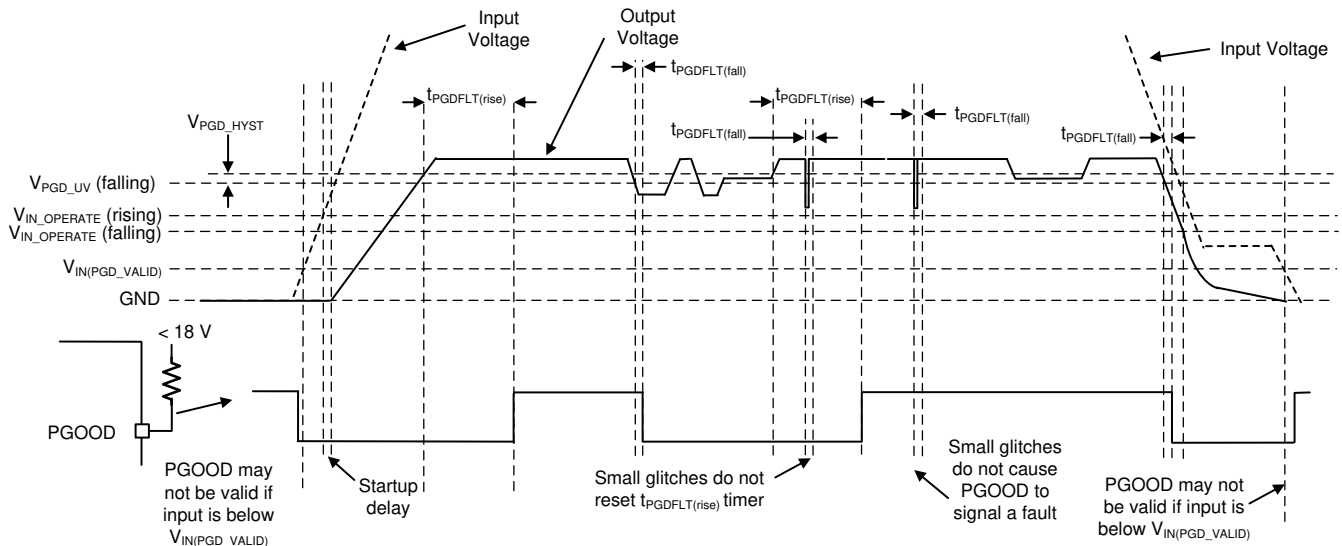

図 7-5. PGOOD Timing Diagram (Excludes OV Events)
The PGOOD function is implemented to replace a discrete reset device, reducing BOM count and cost. The PGOOD voltage goes low when the feedback (FB) voltage is outside of the specified PGOOD thresholds (see 図 6-8). This can occur during current limit and thermal shutdown, as well as when disabled and during normal start-up. A glitch filter prevents false flag operation for short excursions of the output voltage, such as during line and load transients. Output voltage excursions that are shorter than $t_{PGDFLT(fall)}$ do not trip the PGOOD flag. Refer to 図 7-5 to best understand PGOOD operation.